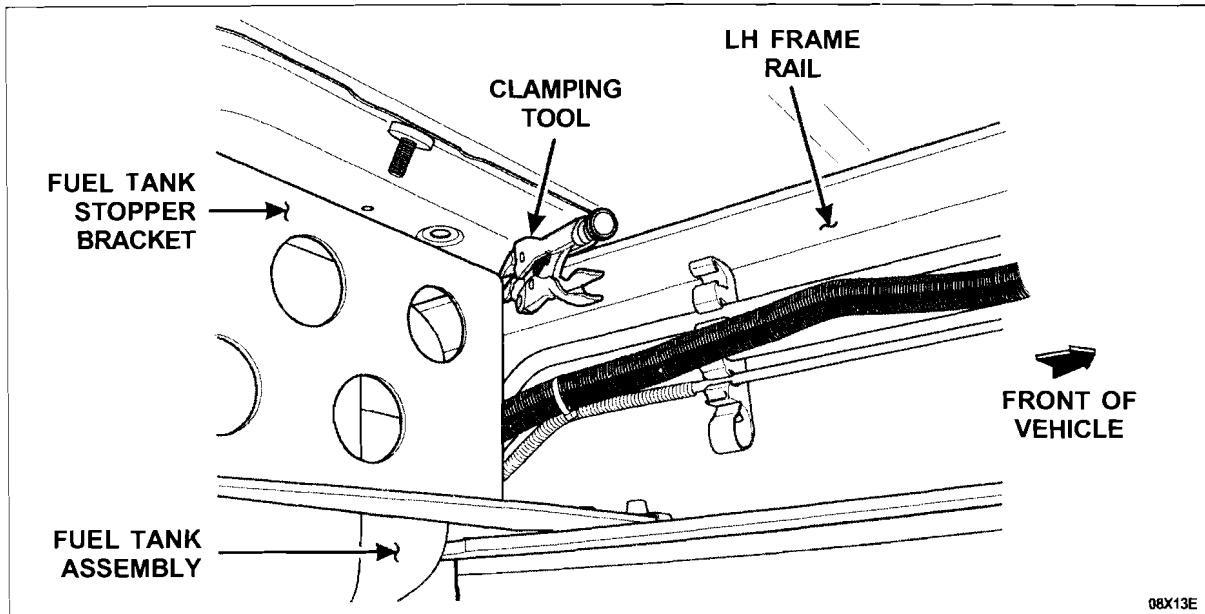

FIGURE 5
6. Clamp the fuel tank stopper bracket to the upper frame rail. See Figure 5.